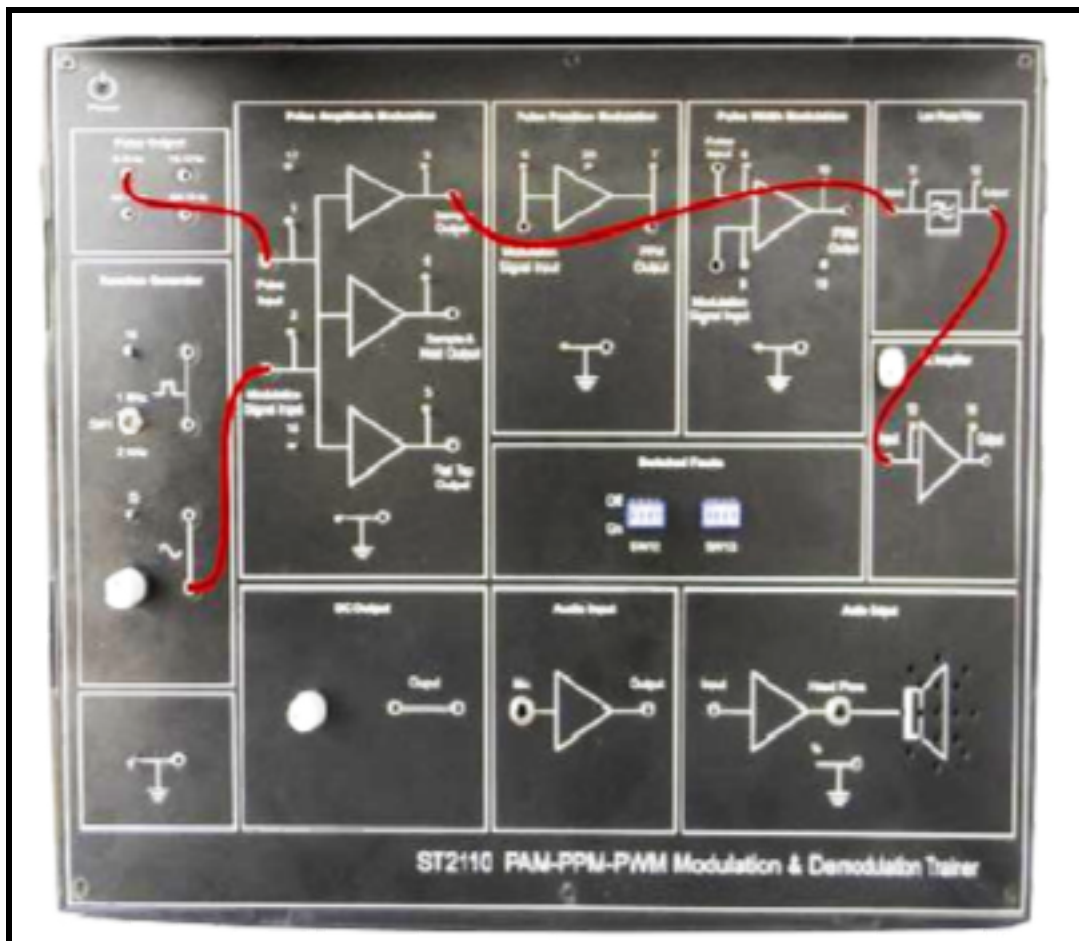

Fig. 1: PAM configuration
1. Connect the circuit as shown in Fig. 1